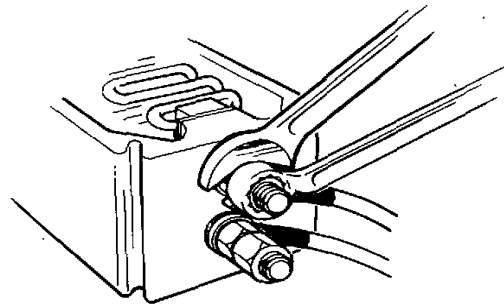

Fig. 218. Tightening the terminal nuts, TD60, TD70
**NOTE!** When tightening the terminal nuts on the pre-heater, the terminals must always be held tight (fig. 218). The wire element can otherwise be turned and cause a short-circuit.
**NOTE!** When loosening and tightening the pre-heater's terminal nuts, the terminals must always be held tight (fig. 218). The wire element can otherwise be turned inside the pre-heater and cause a short-circuit.